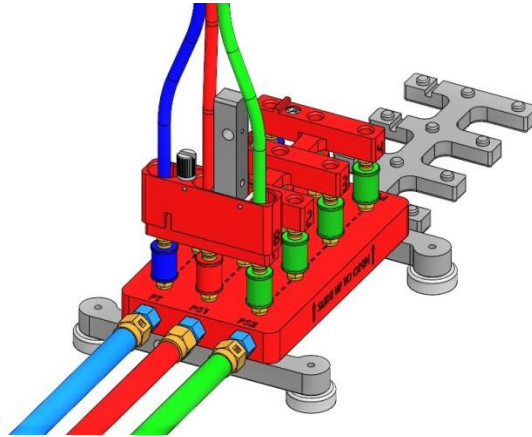

Figure 9: Air Data Test Set hoses connected
- B. Connect the Air Data Test Set to the PT, PS1 and PS2 fittings on the ADIM manifold. Connect PS1 first for easier access to the other fittings (Figure 9).